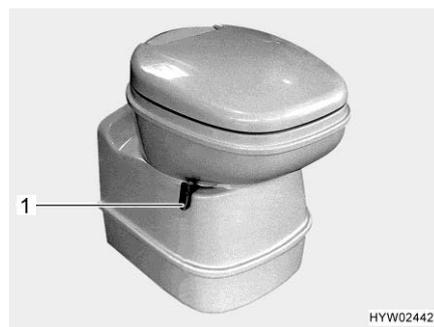
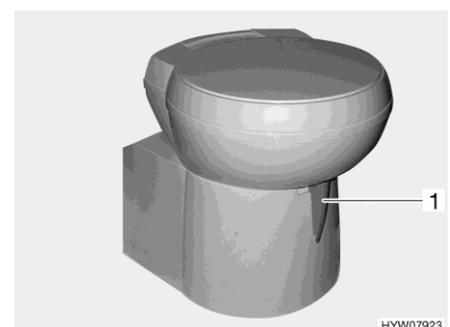

Fig. 291 Thetford toilet bowl, swivelling
Fig. 292 Thetford toilet bowl, swivelling (alternative)
- Before flushing open the sliding trap of the Thetford toilet. To do this, push the slide lever (Fig. 291,1 or Fig. 292,1) in an anticlockwise direction.